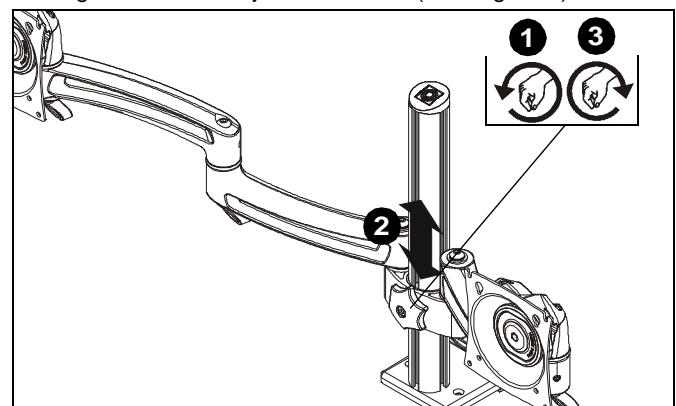

Figure 6
1. Loosen column adjustment knob. (See Figure 6)
2. Adjust height to desired level. (See Figure 6)
3. Tighten column adjustment knob. (See Figure 6)